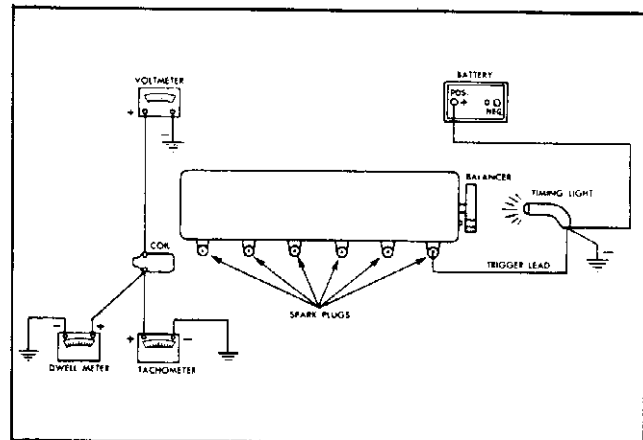

Fig. 6C-1 Schematic of Tune-Up Instrumentation
Follow manufacturer recommendations for the use of testing equipment. Fig. 6C-1 shows a basic schematic for instrumentation which will apply to many types of test equipment and may be used as a rough guide if equipment manufacturer's instructions are not available.
Connections shown in Fig. 6C-1 are made as follows:
1. Attach a timing light and tachometer as shown in Fig. 6C-1.